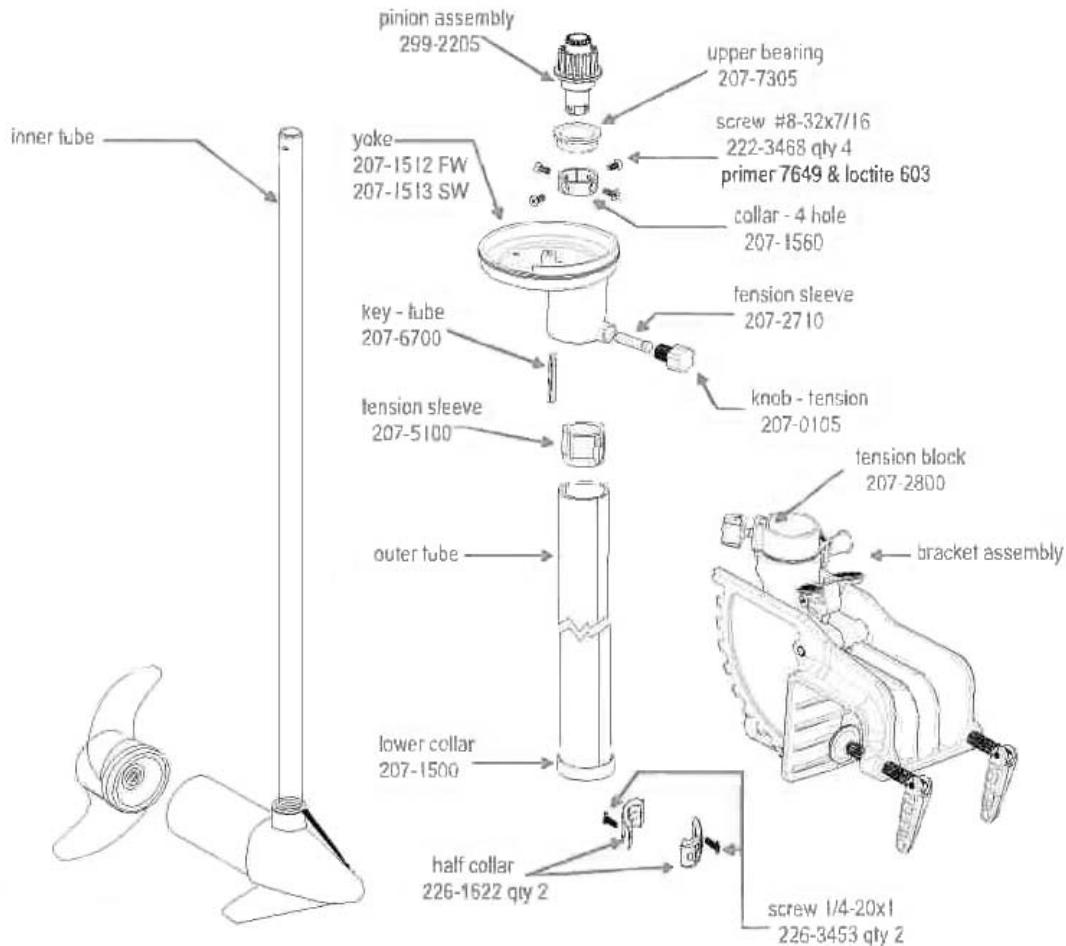

Fig. 5
- Step 9.** Remove the collar halves (P/N 2261622) clamped around the motor inner tube (1-1/8" diameter tube). The collar halves are located just below the lower collar (P/N 2071500) on the outer tube of either the transom mount or bowmount 3X motor. (A 3/16" allen wrench / driver is required.) (see Fig. 5, page 17-4)
- Step 10.** With the collar halves removed, the motor lower unit and inner tube assembly can be pushed / lifted up to expose the 4-hole collar (P/N 2071560) and four #8-32 x 7/16" Phillips flathead countersunk screws (P/N 2223468) that hold the pinion gear assembly into the inner tube. (see Fig. 5, page 17-4)
- A.** Remove the four screws (P/N 2223468) to allow removal of the pinion assembly (P/N 2992205), upper bearing (P/N 2077305) and 4-hole collar. (see Fig. 5, page 17-4)
- Step 1.** With the outer tube and pivot yoke properly positioned and slid into the transom bracket hinge or BowGuard 360° assembly (reference Disassembly Procedure **Step 12**), slide the motor lower unit, inner tube assembly, and lower collar (P/N 2071500) back into place in the outer tube with the upper end of the inner tube extending out the top of the pivot yoke. (see **Fig. 5 on page 17-4**)
- A.** Use care to line up the rib in the pivot yoke with the ends of the split gear carrier. (see **Fig. 5 page 17-4**)